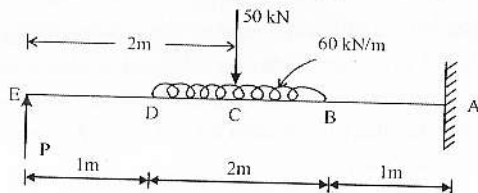

Fig. 3
9. A cantilever 4m long is supported at the free end by a prop, at the same level as the fixed end. A uniformly distributed load of 60kN/m is carried along the middle half of the beam, as shown in fig. 3, together with a central concentrated load of 50kN . Determine the load on the prop and the maximum bending moment in the beam. EI is constant throughout the length of the beam. Use Macaulay's method.